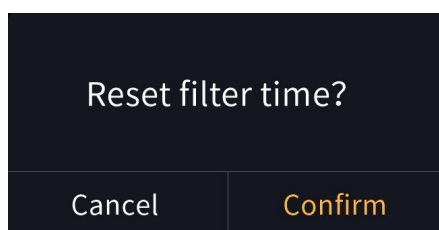

Fig.2.2.10.2
Fig.2.2.10.1; when enable, icon⑧ will be colourful after ventilation system ON, the remaining evaluation value will be displayed below to it, the value will be updated according to the use time, which will be updated through the bus.
The service life of the filter set by the parameter configuration. When the filter time reaches to the parameter setting value, the alarm state can be issued through the bus, and the remaining filter timer value can be displayed to be 0%. When touch icon⑨, the filter time can be reset, as shown in Fig.2.2.10.2 below. After clicking “Confirm”, the filter timer value can be reset to 100%.